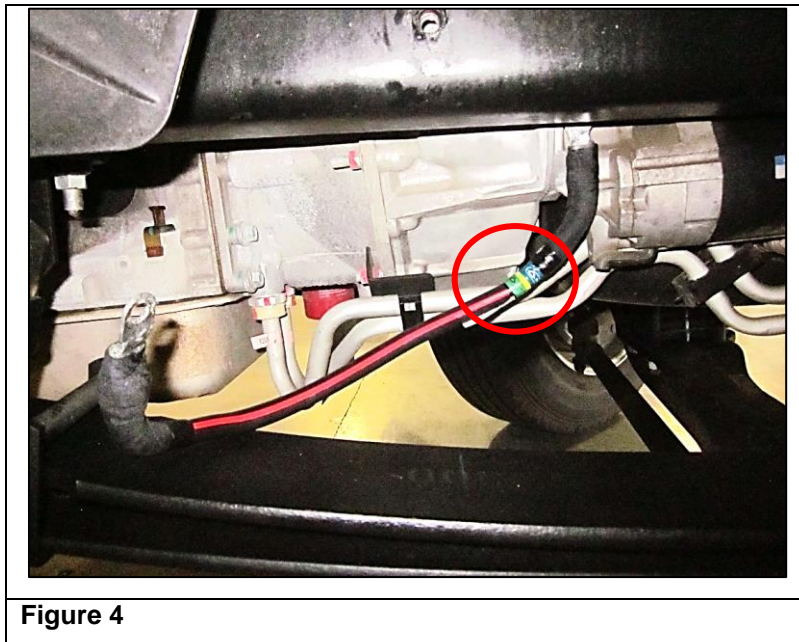

Figure 4
7. Using the bolt removed in Step 4 above, first attach the eyelet of the new ground cable closest to the part number label to the starter. Ensure that the flat side of the eyelet is flush to the starter housing; Torque to 40 Nm (30 ft.lb.). See Figure 4.